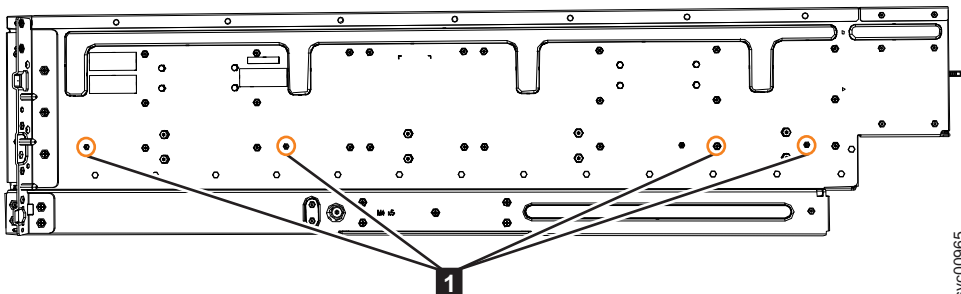

Figure 36. Screw locations to attach the inner rail to the enclosure
4. Use four M4 screws to attach the inner rail to the side of the enclosure. Figure 36 shows the screw locations.